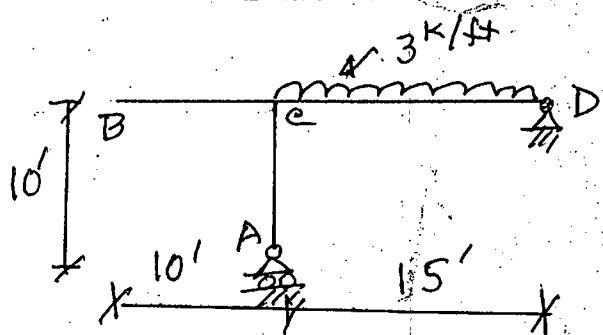

Fig. 3
3. For the Frame shown in Fig. 3, find vertical deflection at B. Given: $A = 10 \text{ in}^2$, $I = 400 \text{ in}^4$ for all members and $E = 30,000 \text{ ksi}$.